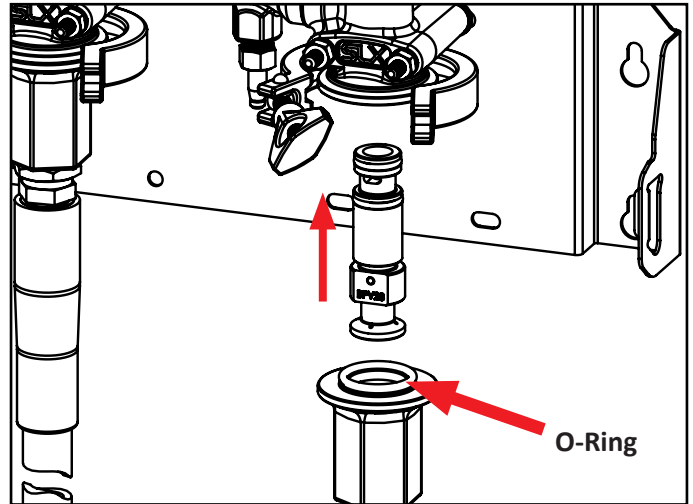

Fig. 9.3: Replacing venturi insert and foamer body
7. Replace insert when clean or with a new version by sliding it back into the upper body, o-ring section first. [Fig 9.3]